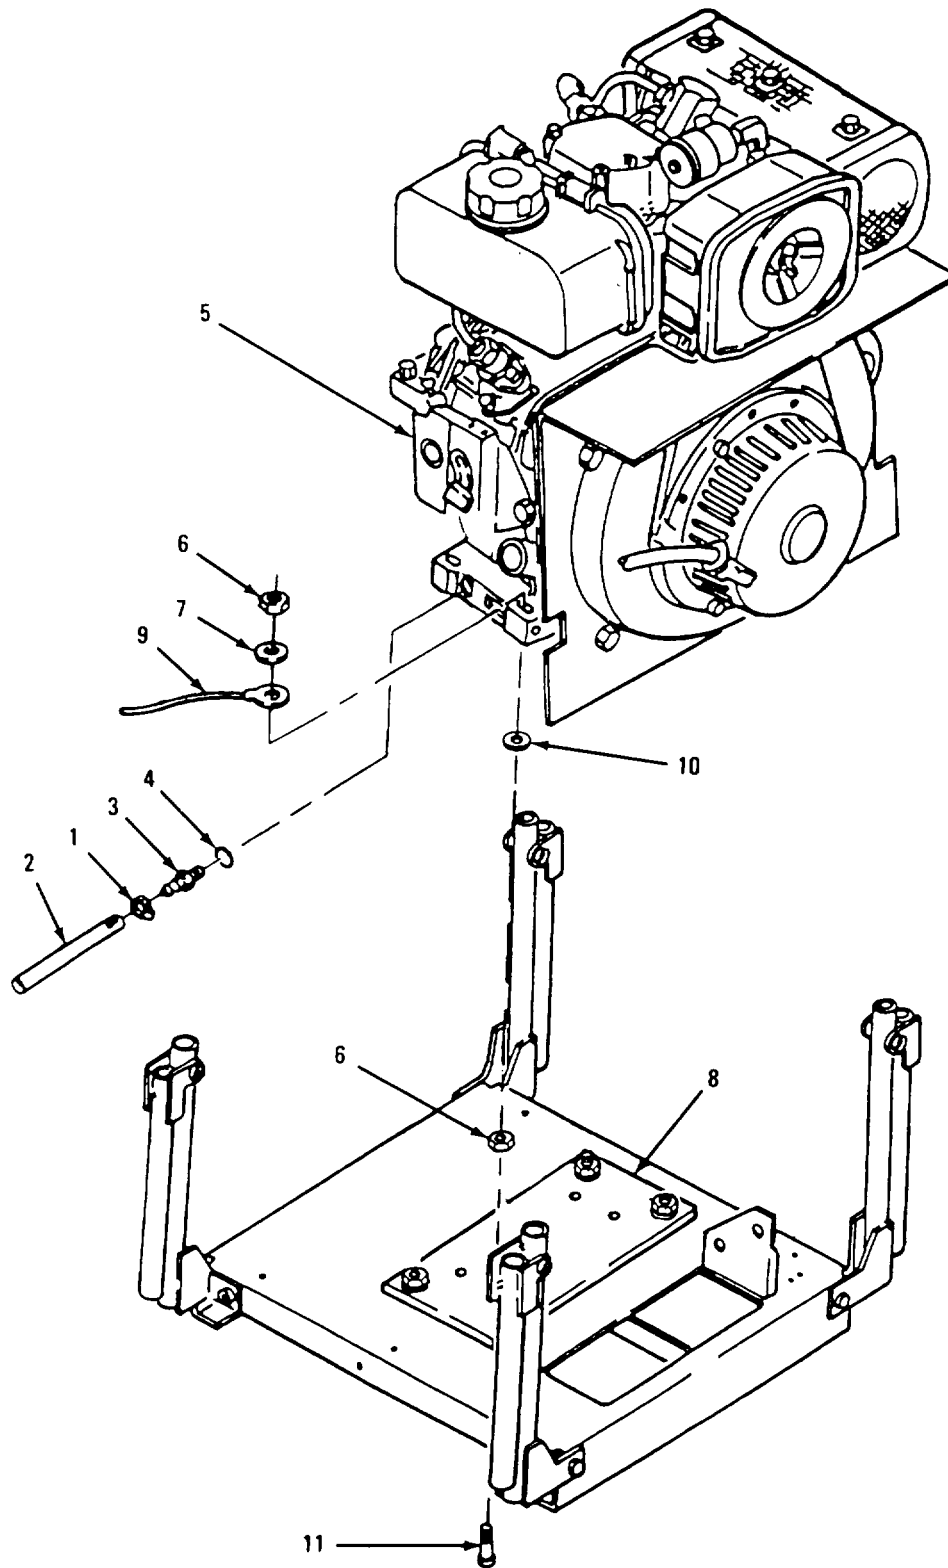

Figure 5-5. Engine Mounting Assembly
a. *Removal.* (Refer to Figure 5-5)
- (1)Remove clamp (1), oil drain hose (2), fitting (3), and gasket (4) from engine (5). Discard gasket (4).
- (2)Remove four self-locking nuts (6) and four washers (7) attaching engine (5) to engine base plate (8). Push aside ground wire (9).
- (3)Remove engine (5) and four washers (10) from engine base plate (8).